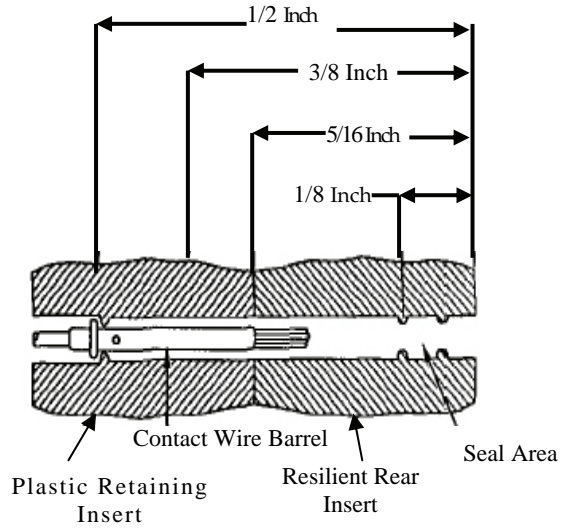

Figure 19. Typical Connector Dimensions
Refer to figure 19 for approximate dimensions of a size 22 contact and cavity. The dimensions in this procedure are based on a size 22 contact.
- d. If resistance is felt before removal tool reaches back end of contact, withdraw tool slightly, rotate about 1/6 of a turn, and reinsert tool. Repeat rotating and insertion procedure until tool passes with minimum additional force to 5/16-inch depth back end of contact (Figure 19 and 20).